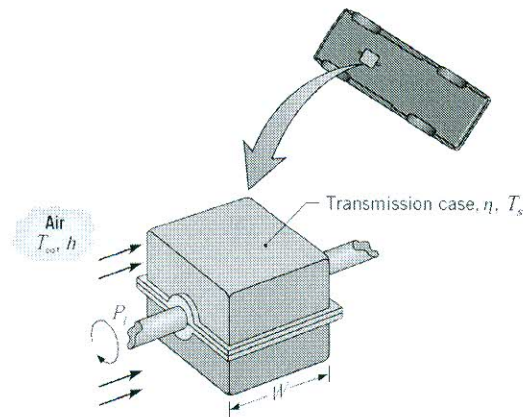

Figure 7: Transmission case on car
- [b] A transmission case measures $W = 0.30$ m on a side and receives a power input of $P_i = 150$ W from the engine. If the transmission efficiency is $\eta = 0.93$ and air flow over the case corresponds as in Figure 7. The temperature at $T_\infty = 30^\circ\text{C}$ and $h = 200$ $\text{W}\cdot\text{m}^{-2}\cdot\text{K}^{-1}$, compute the surface temperature of the transmission?